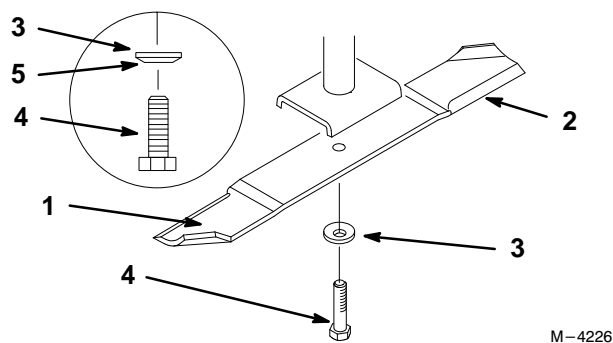

Figure 22
1. Hold the blade end using a rag or thickly-padded glove. Remove the blade bolt, spring disk and blade from the spindle shaft (Fig. 22).
1. Install the blade onto the spindle shaft (Fig. 22).
2. Install the spring disk and blade bolt (Fig. 22). Torque the blade bolt to 85–110 ft-lb (115–150 N•m).